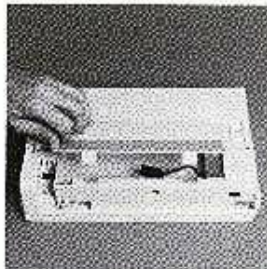

Figure 4-5
- a. Open the rechargeable battery cover on the Outbound's base. See Figure 4-5.